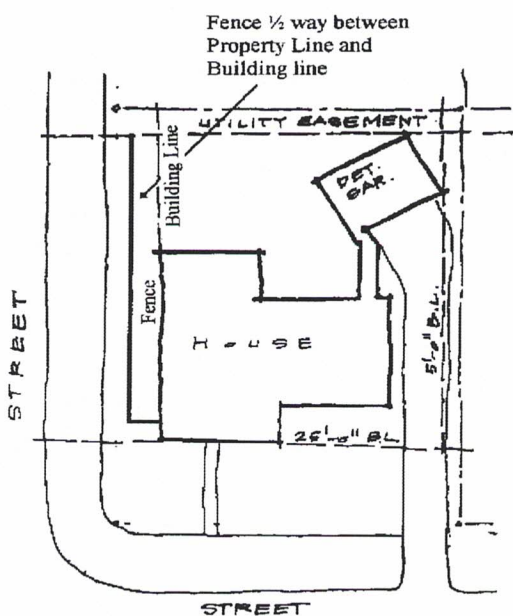
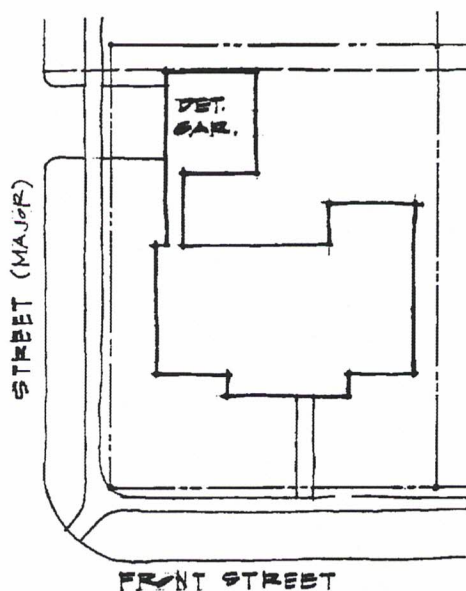

Figure 1
Figure 2
Corner lots shall have garages and driveways near the property line farthest from the corner intersection only (Figure 1). "Side out" garages to the side street are prohibited (Figure 2).
Corner lots (Figure 1, Page 3): Fence must be located halfway between the property line and the building line. The fence must be set back five (5) feet from the front of the home. The finished, or "picket" side of the fence should face the side street. On corner lots of a subdivision entrance where wood fencing is utilized, the fence must be a capped.